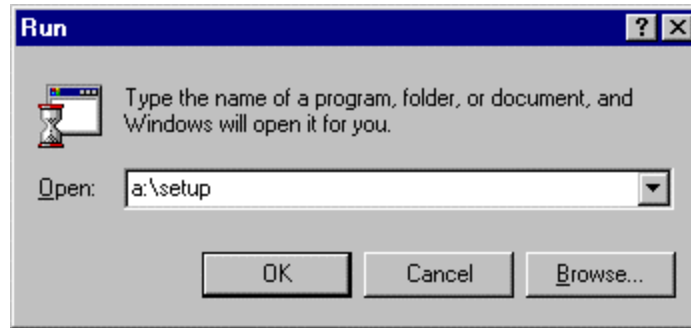

Figure 1: Run window from the Start menu.
1. Insert the installation disk into your floppy disk drive. Choose Run in the Start menu. (See Fig. 1)
2. Type A:\ setup and hit Return or click on OK. (See Fig.1)